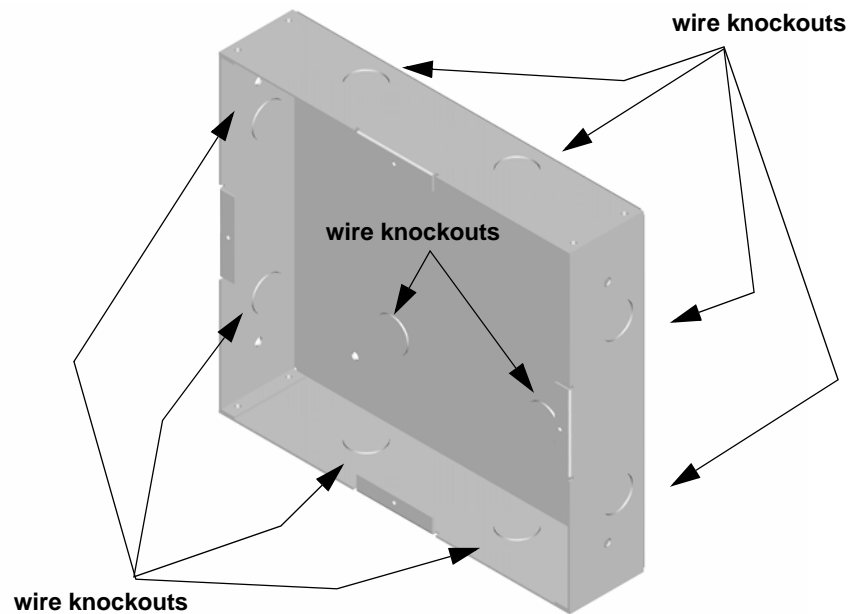

Figure 4.15 Back Box Knockout Locations
2. Remove knockout holes as needed for wires. See Figure 4.15 for backbox knockout locations
1. Remove the desired knock out. See Figure 4.15.
2. Remove knockout holes as needed for wires. See Figure 4.15 for backbox knockout locations.